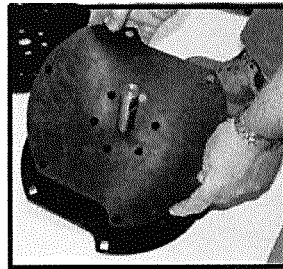

Fig.9: Line up holes on both rubber pad and plate assembly.
2. Place rubber protection pad onto drum attachment plate assembly. Ensure pad fits flush with plate assembly (Fig.9)